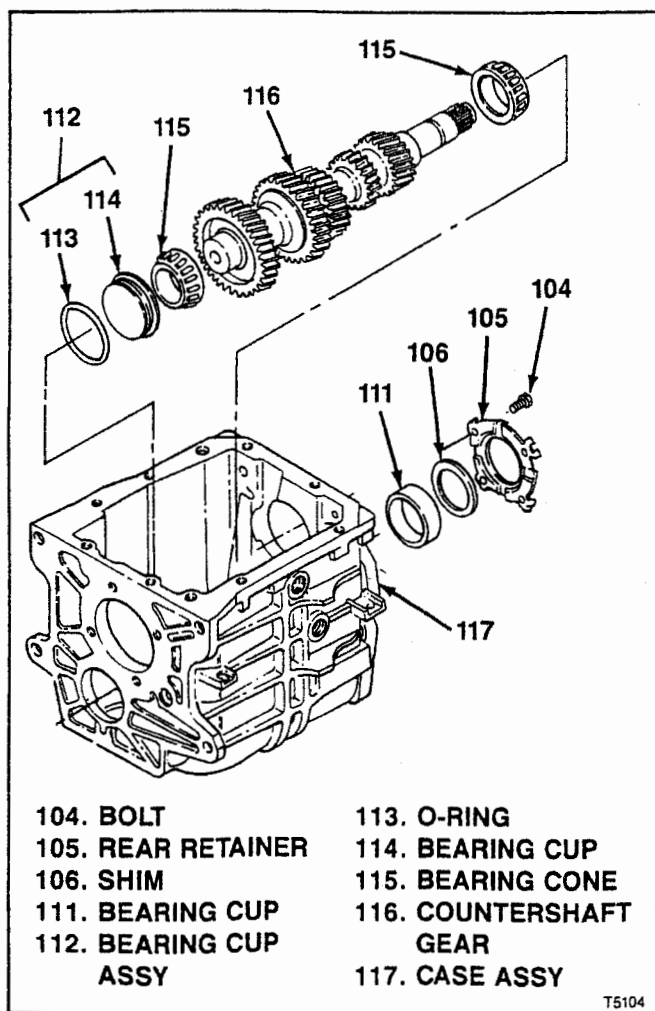
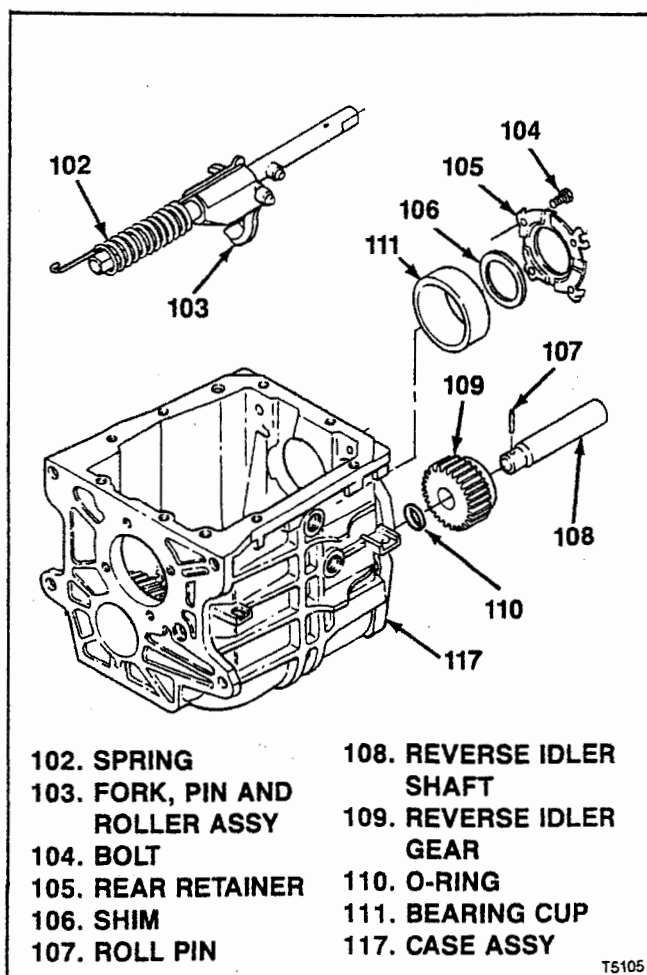
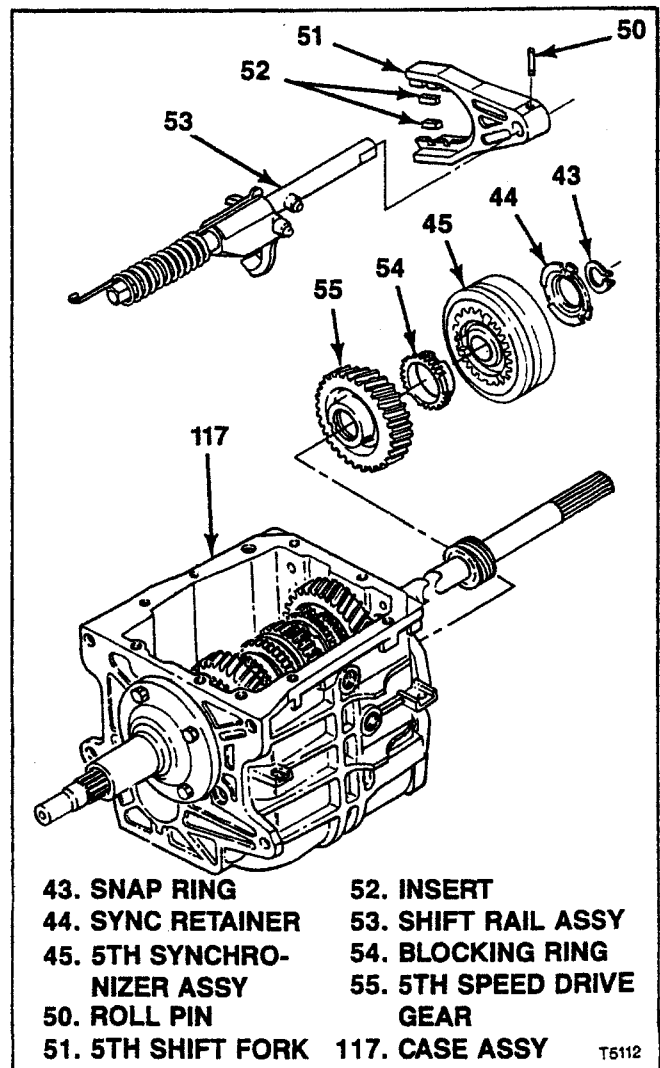

Figure 6-5. T5 WC Countershaft Gear
Figure 6-6. T5 WC Reverse Fork and Idler Gear
Figure 6-13. T5 WC 5th Synchronizer, Shift Fork and Gear
6-8. ASSEMBLY AND INSTALLATION OF T5 WC COUNTERSHAFT GEAR (see figure 6-5):
6-9. INSTALLATION OF T5 WC REVERSE FORK AND IDLER GEAR. With assembly completed as described through paragraph 6-8, proceed as follows (see figure 6-6):
6-15. INSTALLATION OF T5 WC 5TH GEAR, SHIFT FORK AND SYNCHRONIZER. At rear of transmission, install parts as follows (see figure 6-13):
- a. Install 5th speed drive gear (55) and blocking ring (54) on end of countershaft gear (116, figure 6-5).
- b. Attach 5th shift fork (51) to shift rail assembly (53) with roll pin (50). Install inserts (52) on 5th shift fork.
- c. Engage 5th shift fork (51) with previously assembled (paragraph 6-7) 5th synchronizer assembly (45) and install together in transmission noting the following:
2. Guide shift rail assembly (53) through reverse fork, pin and roller assembly and spring (103 and 102, figure 6-6) previously installed.
- d. Install 5th synchronizer retainer (44) and snap ring (43).
- a. Work 5-R shift lever (42) into engagement with rollers on previously installed shift rail assembly (53, figure 6-13) and fork, pin and roller assembly (103).
- b. From outside transmission install pivot pin (40) through case and 5-R shift lever (42). Torque pin to 20 lb-ft (27 Nm).
- c. Inside transmission, attach lever to pin with retaining ring (39).
- d. Install back-up switch (41).
- e. Using needle nose pliers, hook free end of previously installed spring (102, figure 6-6) on pin in transmission case (117).